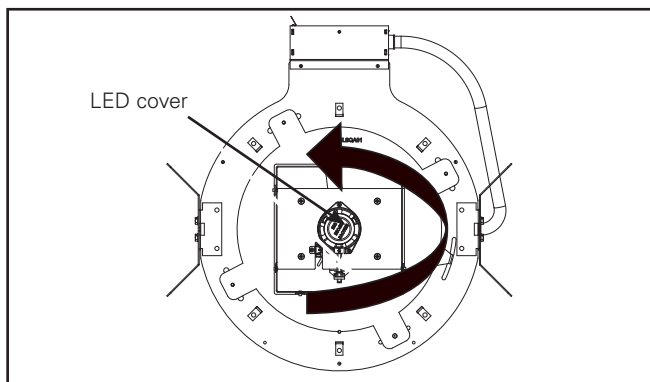

Figure 9.
3. Remove protective LED Cover (Figure 9) from Housing by rotating counter clockwise.